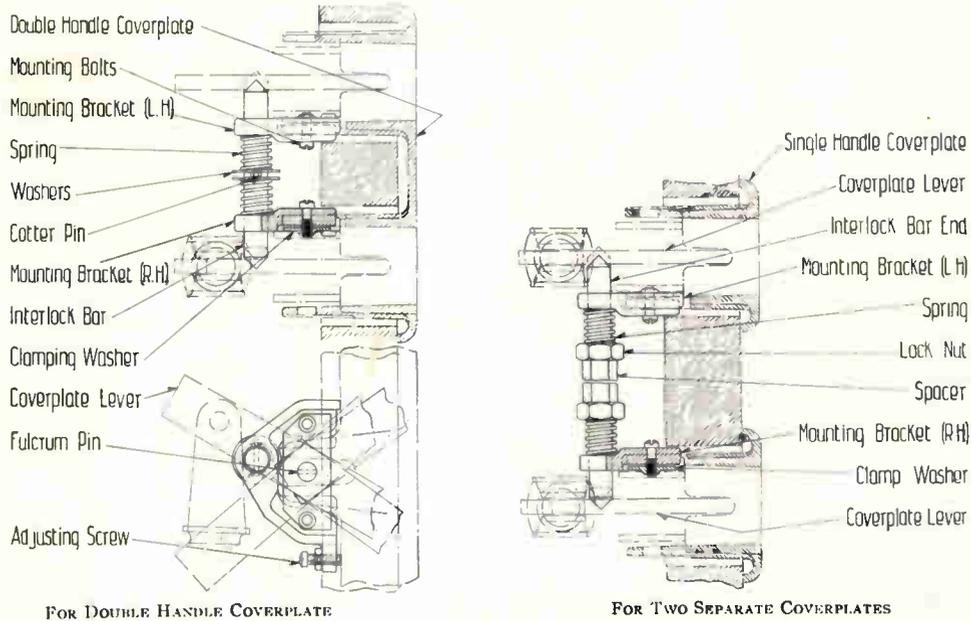

FIG. 26—MECHANICAL INTERLOCK
**Mechanical Interlock (Fig. 26)**—The mechanical interlock consists of a bar and centralizing springs so arranged that it is impossible to close but one of two levers at a time. This may be used on two single handle coverplates on various center lines or on the two handles of a double handle coverplate. Its chief application is a double-throw breaker made of two single-throw units operated from two handles of the coverplate. The double-throw F-11 breaker has an equivalent interlock which is an integral part of the breaker unit. See Fig. 26.